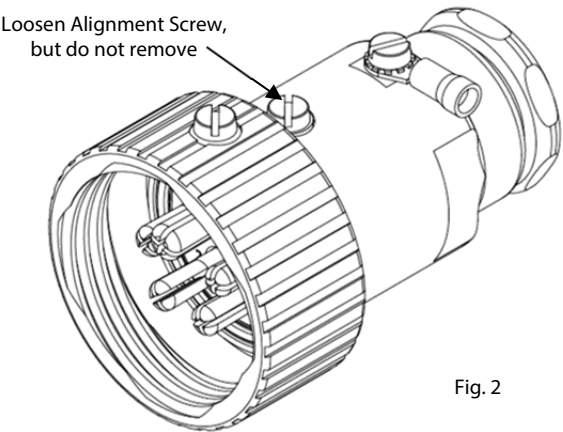

Fig. 2
- 1) Once the connector plug has been unpacked, the insert must be removed to allow for assembly. Loosening the screw on the body of the connector as shown below in Fig. 2 until the insert is free to be removed from the connector. **Do not** fully remove the screw. Safely store insert until required.